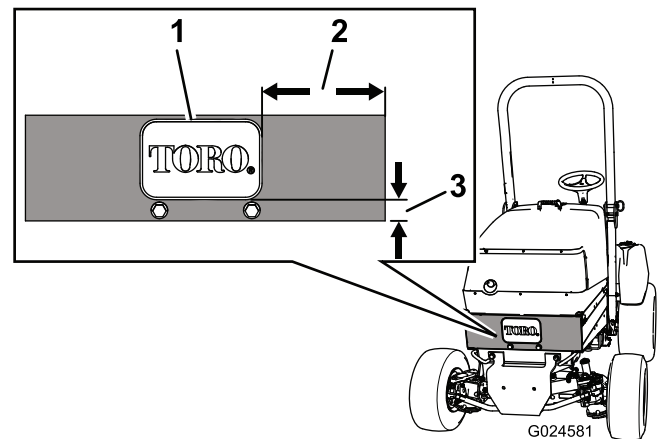

Figure 12
33. Using the dimensions shown in Figure 12, locate and affix the Toro decal to the rear of the machine. Make sure the mounting surface is clean before affixing the decal.